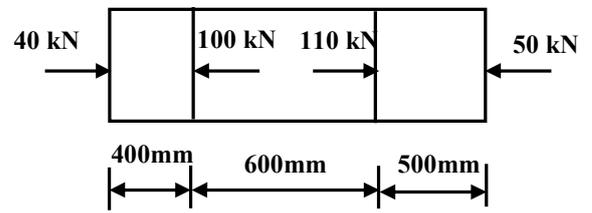

Figure: 2 Q-2(a)
- Q-2 (a) Find out the change in length of different parts of steel rod of 20mm diameter as shown in Fig: 2 7